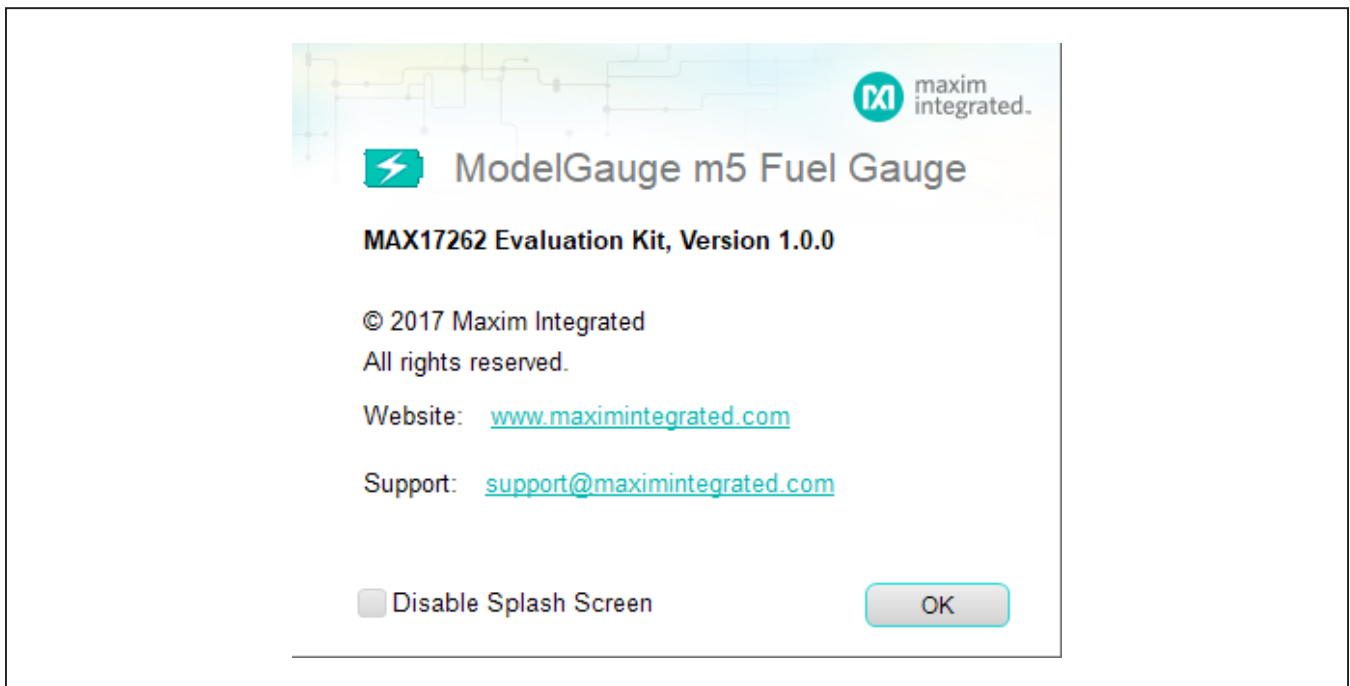

Figure 2. EV Kit Splash Screen
**Panel.** After the installation is complete, open the Maxim Integrated/MAX17262 folder and run MAX17262.exe or select it from the program menu. Figure 2 shows a splash screen containing information about the evaluation kit that appears while the program is loading.